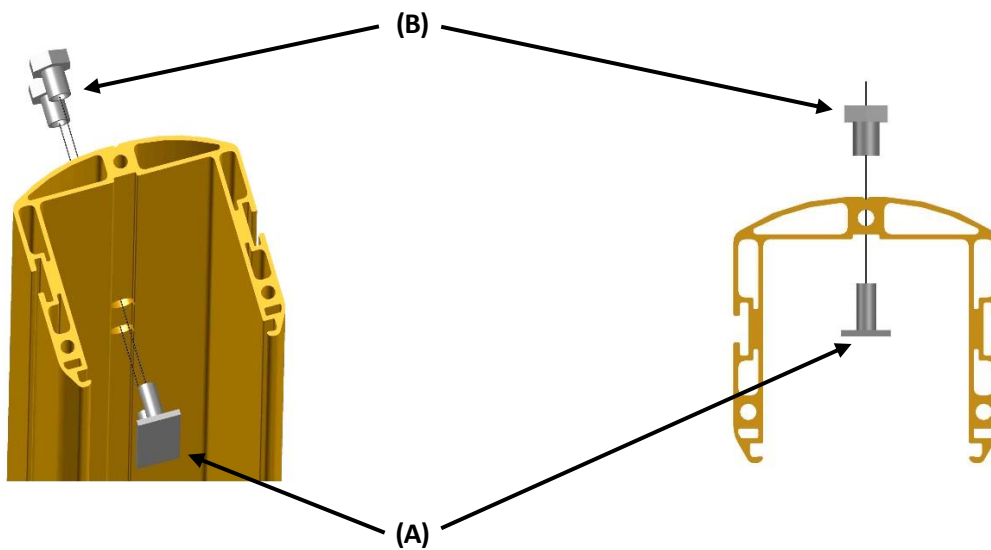

Figure 14
- Place the inserts with 2 the pins M6x16 **(A)** in the holes in the column (Figure 14).